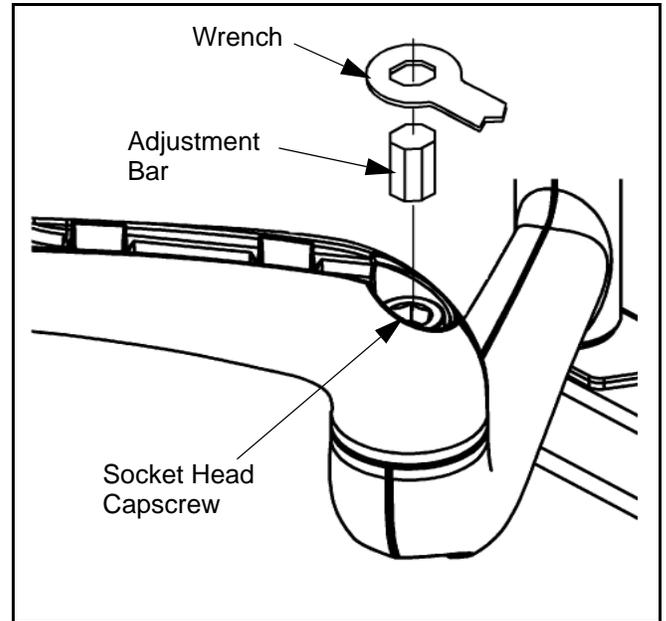

Figure 15: Pivot Arm Tension Adjustment Location
2. Place adjustment bar into socket head cap screw located at swing arm pivot point. (See figure 15)